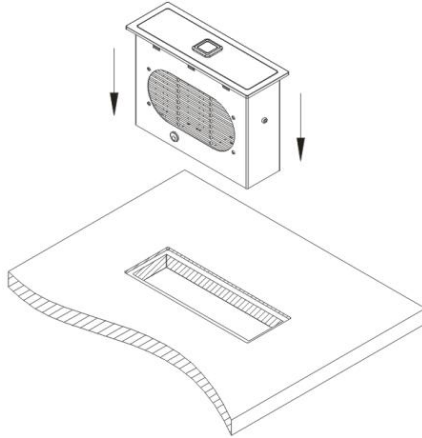

Fig. 5 – Install Source Capture® Vent
- 5.5 Install the Source Capture® Vent in the table by inserting it into the cut-out, as shown in Fig. 5.